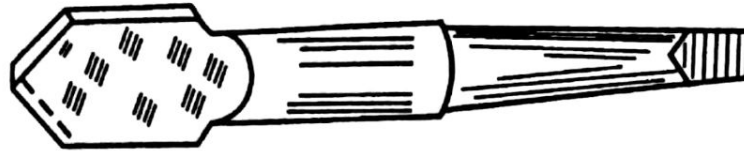

Fig. 2.24 : Flat Drill
1. **Flat or Spade Drill :** This drill resembles with double edged knife. In the beginning of civilization, it was used and now it has become almost obsolete, because it does not give true size of drilled hole and very frequent grinding of the nose is needed. A flat drill is shown in fig. 2.24.